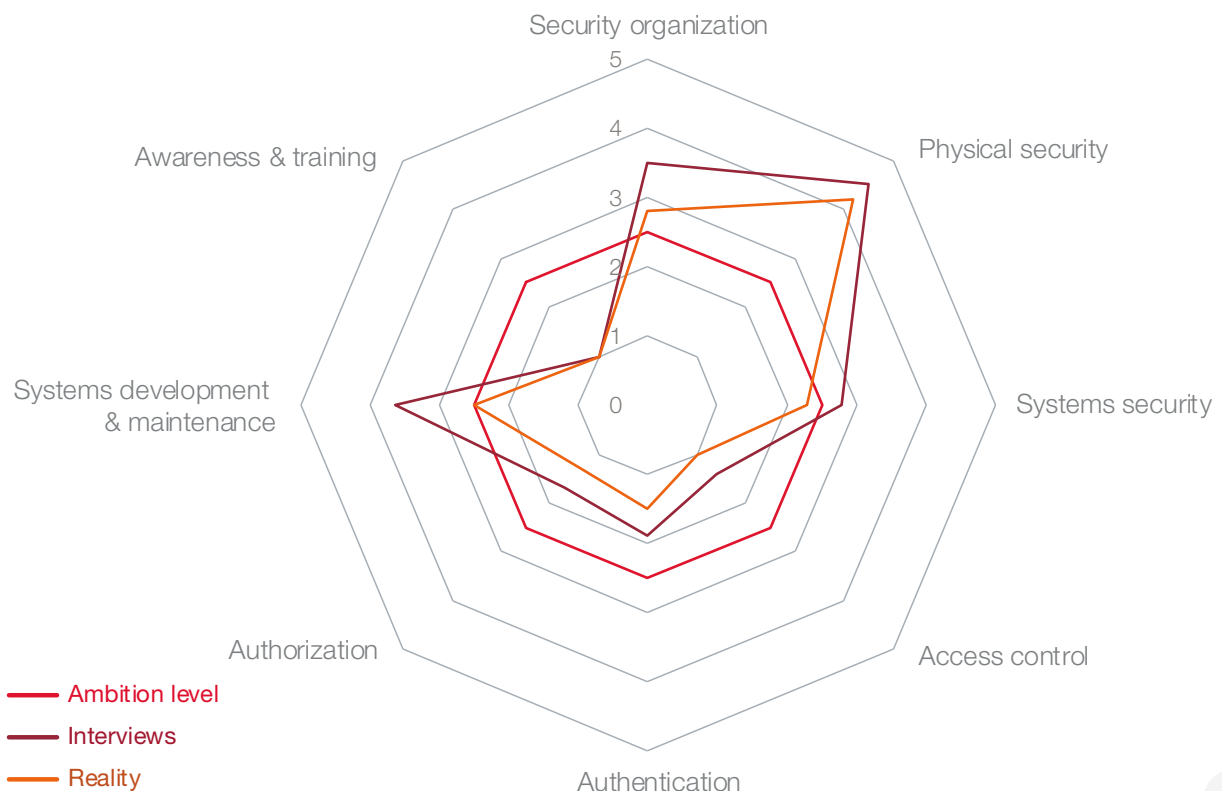

Figure 3: Multiple spider diagrams help to visualize the security maturity level of the organization
Based on the responses and their related scoring, multiple spider diagrams (Figure 3) are developed, illustrating the ambition level, levels shared during interviews and the ground reality based on the physical inspection of the factory or plant. These diagrams and the supporting detailed information gathered during the interviews will provide clear guidance on where to focus necessary improvement actions.
4. OT security network assessment: This assessment provides clear insight into the active components present within the OT environment. During this assessment, one or more data streams from the OT environment are extracted (in a non-intrusive manner) to identify active assets, the interaction between them and the common protocols used. From this, an interactive topology drawing or network map (Figure 3) is created. Discovered vulnerabilities can be compared to an up-to-date database of known vulnerabilities and flagged for mitigation. The information gathered during this assessment can also be used to build, verify and/or enrich a manufacturer's configuration- or asset management database (CMDB).